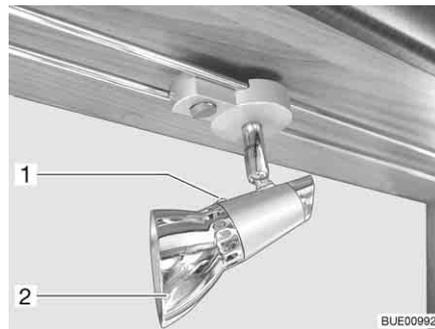

Fig. 205 Halogen spotlight (movable)
- Loosen the fixing screw (Fig. 205,1).
- Remove the lamp shade (Fig. 205,2).